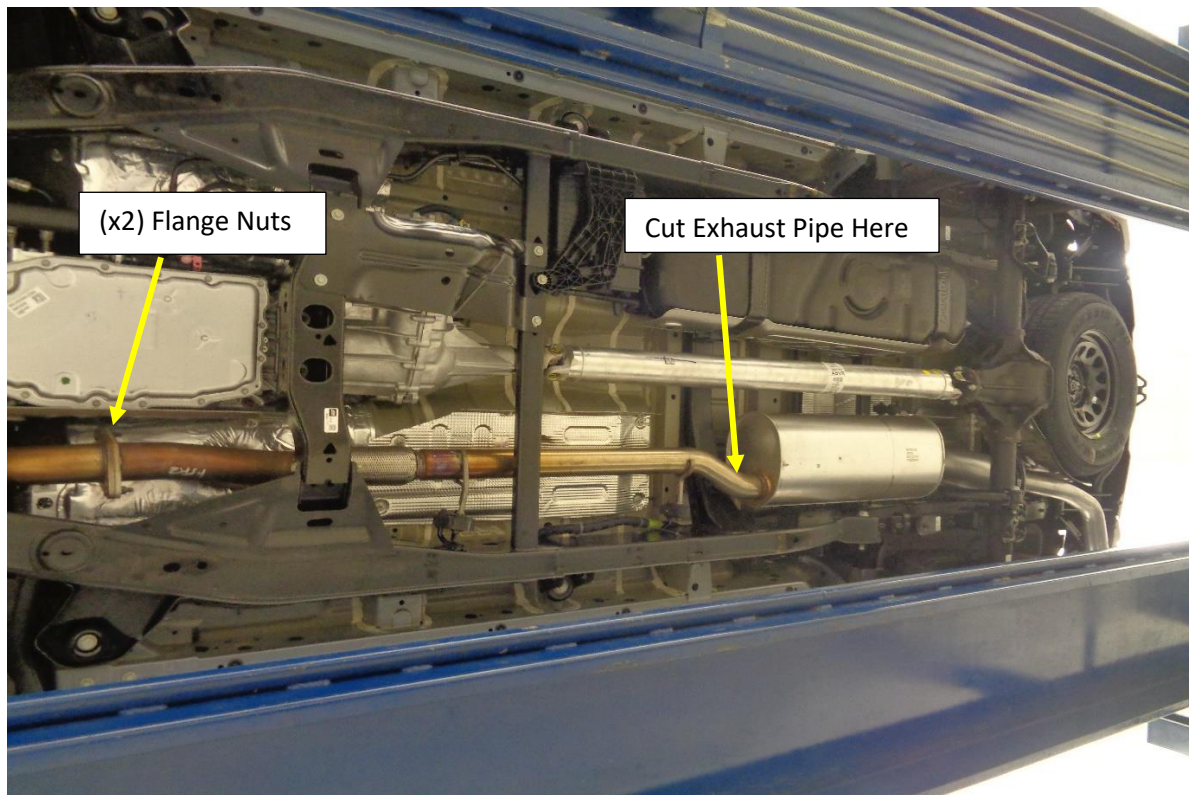

Figure 1
2. Remove the (x2) 15mm nuts at the two-bolt flange connection. **Fig.1**
3. Cut the exhaust pipe just before the muffler with a reciprocating saw. **Fig.1**
4. Remove the (5) rubber Isolators from the hanger rods.